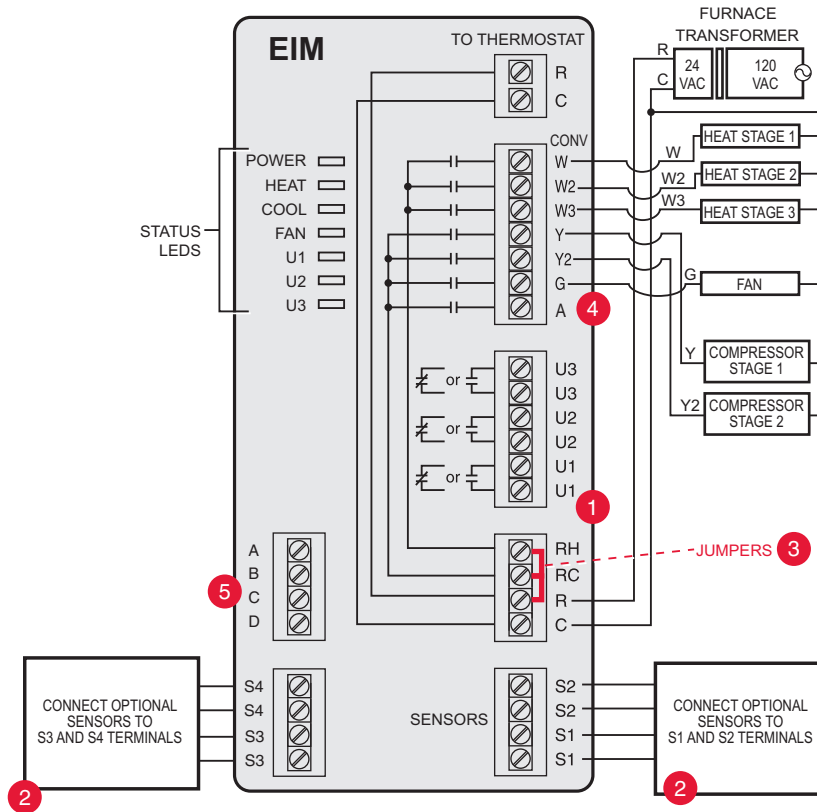

Fig. 319. EIM wiring guide — conventional systems.
All wiring must comply with local electrical codes and ordinances. See Fig. 319–327.
6. See Fig. 319–327 for typical wiring hookups.